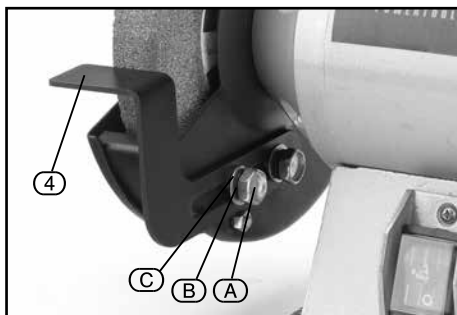

FIG. 3
8.4 FITTING THE TOOL RESTS – FIG. 3